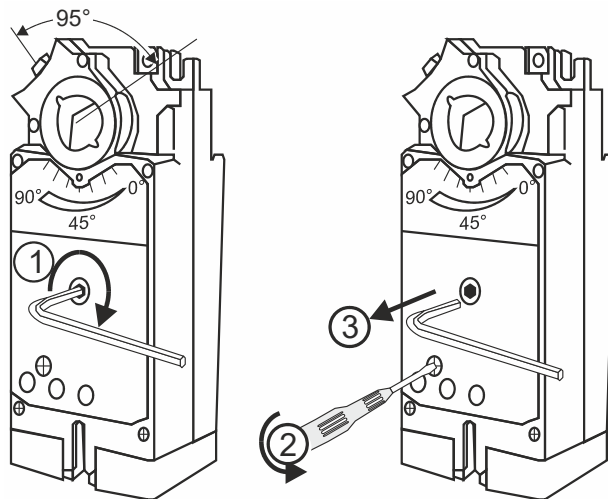

Fig. 3. Manual positioning
2. Insert the supplied hex wrench (key) as shown in Fig. 3.